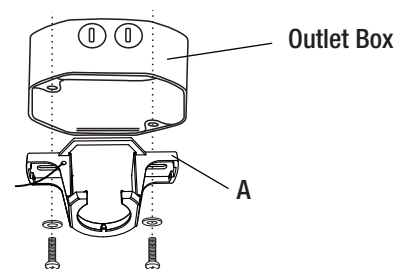

Figure 9
- Secure the mounting bracket (A) to the ceiling outlet box as shown in Figure 9 by using two screws and washers (not provided). Make sure the mounting bracket is level. You may need to insert additional washers (not provided) between the outlet box and the mounting bracket to make it level.